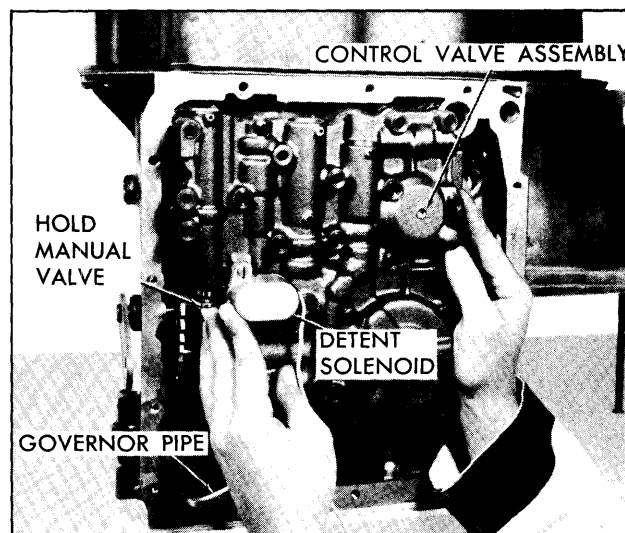

Fig. 7E-39 Removing Control Valve
2. Remove the regulator boost valve bushing and valve from the case bore. (Fig. 7E-35)